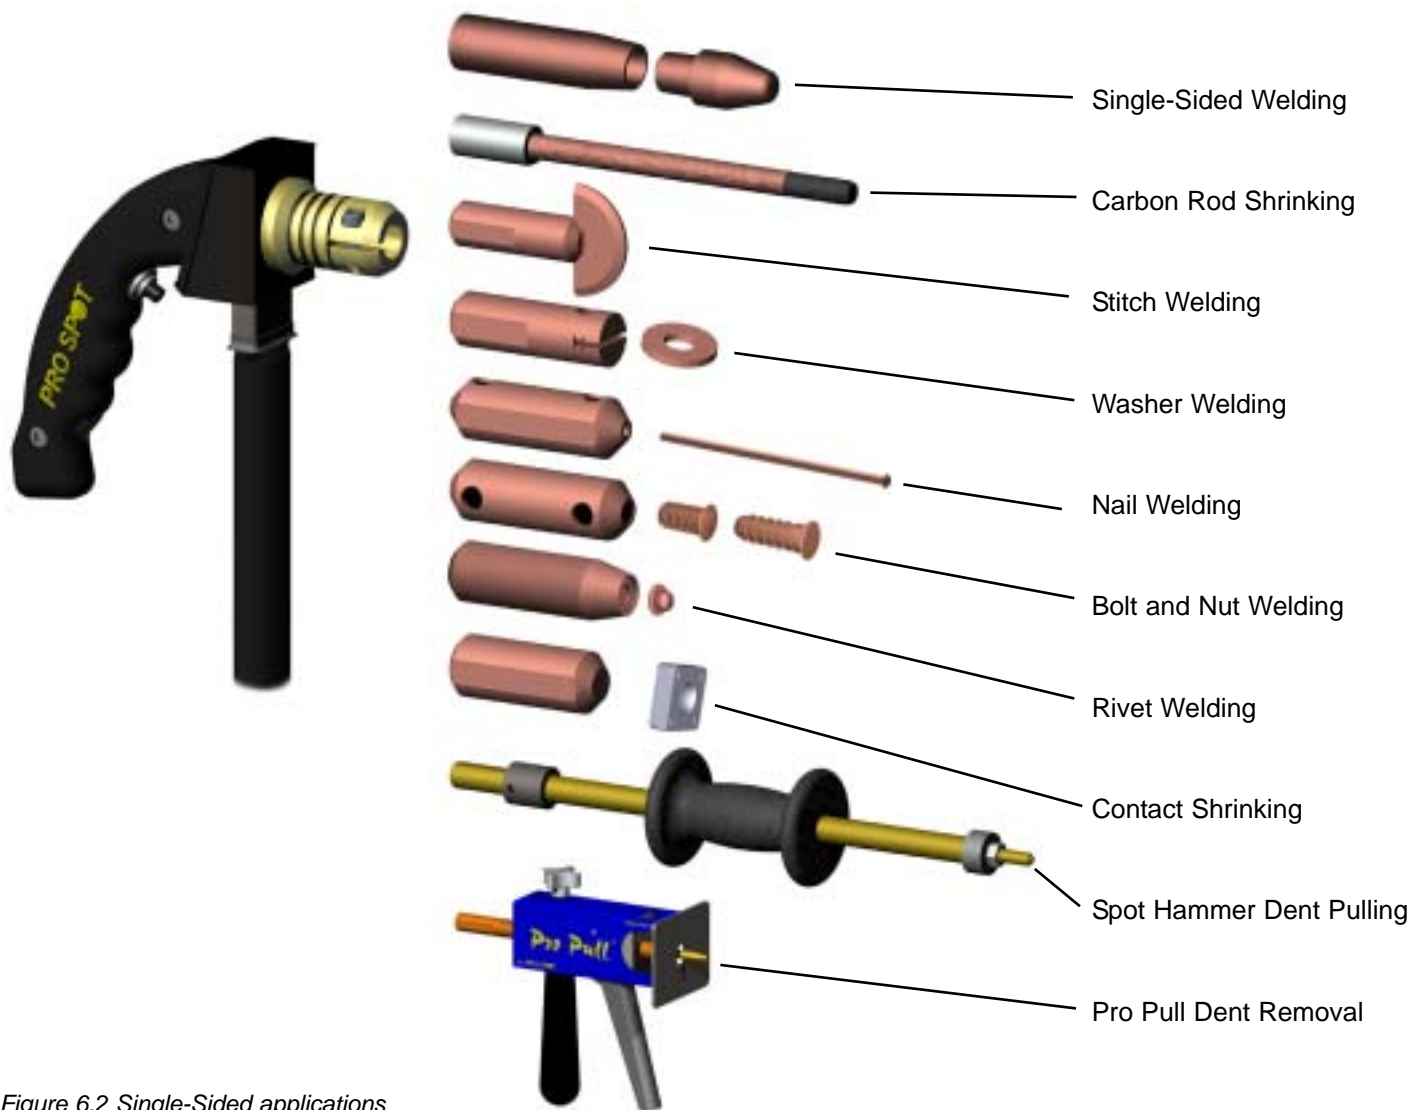

Figure 6.2 Single-Sided applications
3. All modes shown in fig. 6.2 are available in Single-Sided mode except for PRO PULL which is activated by pushing on the PRO PULL Button.